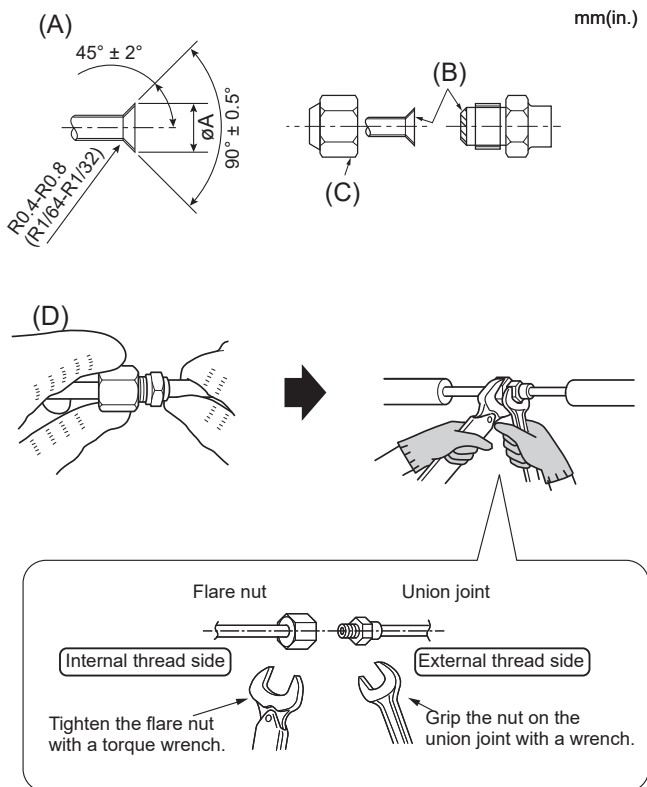

Fig. 4-1
4.2. Connecting pipes (Fig. 4-1)
- Flare the ends of the refrigerant pipes. (A)
- Apply refrigerating machine oil over the entire flare sea surface. (B)
- Use the flare nuts as follows. (C)
- Use 2 wrenches to tighten piping connections. (D)